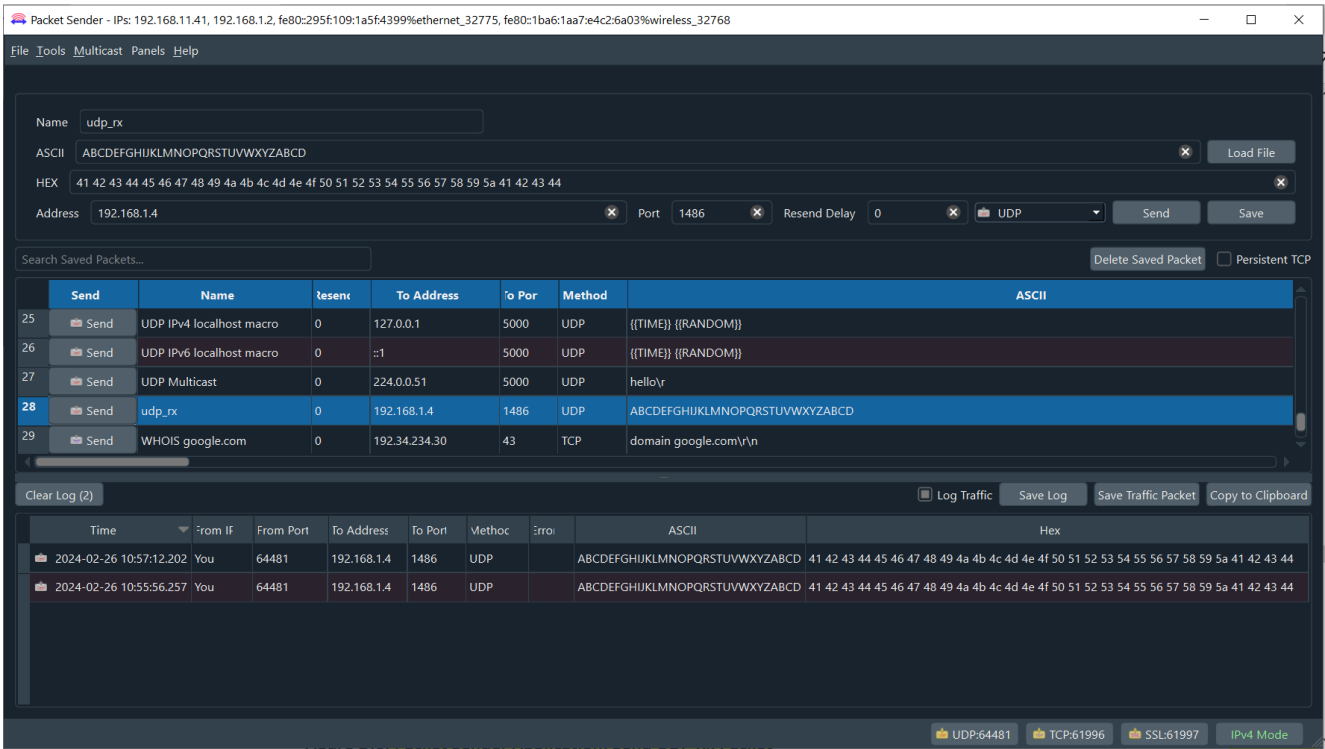

Figure D.6. Packet Sender Application: Send UDP Rx Packet
- c. Provide name of packet, ASCII characters of the packet to be send, Address is 192.168.1.4 (main system address), port is 1486 as shown in Figure D.6.